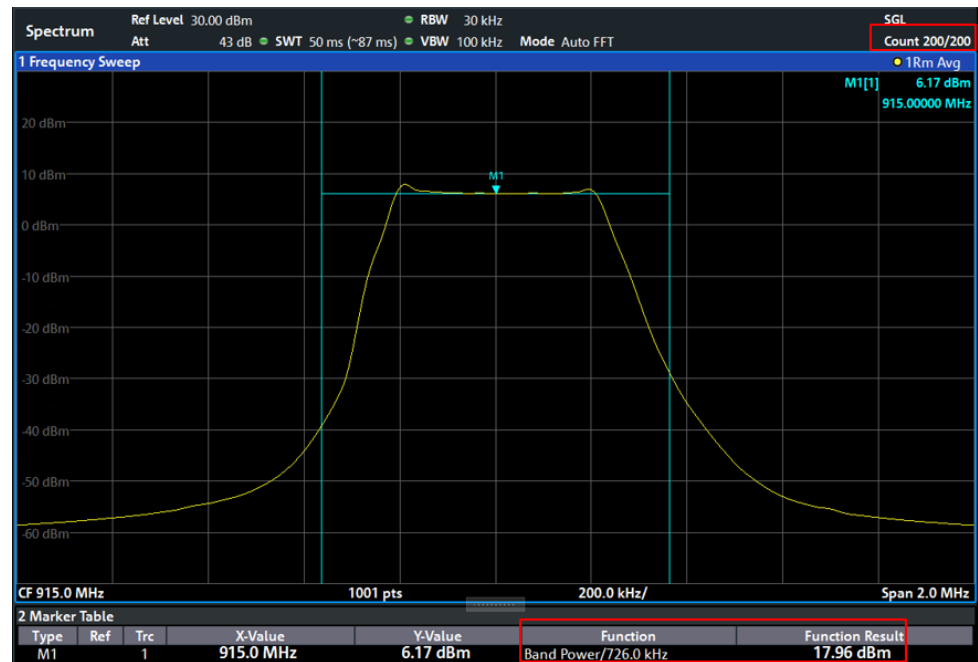

Figure 2-8: Emission output power measurement with SF = 7
23. Press the *Run Single* key and wait until the number of averaging operations set under *Average Count* have been performed. The result of the measurement is shown in Figure 2-8.